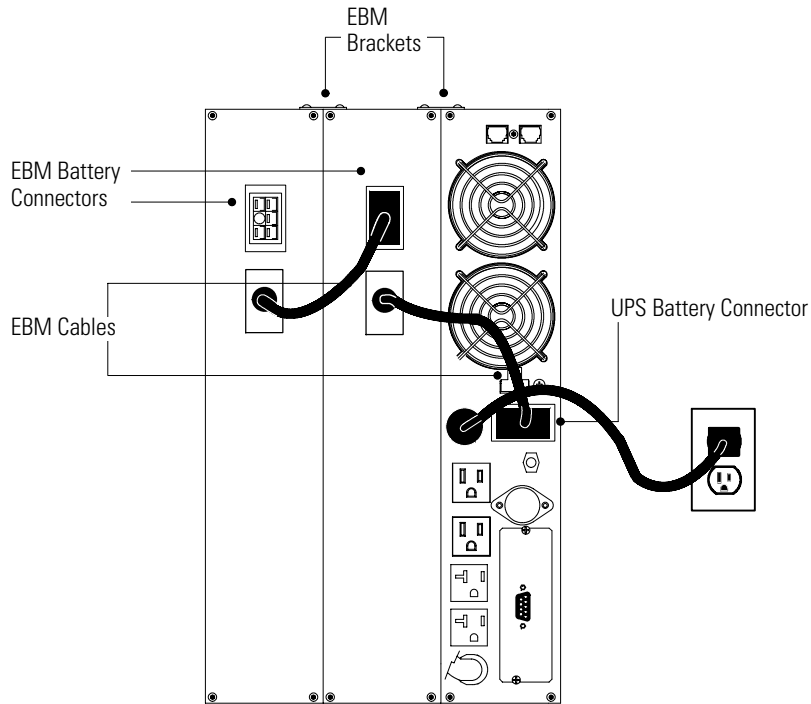

Figure 38. EBM Connections (120V Model Shown)
8. Plug the new EBM into the UPS as shown in Figure 38.